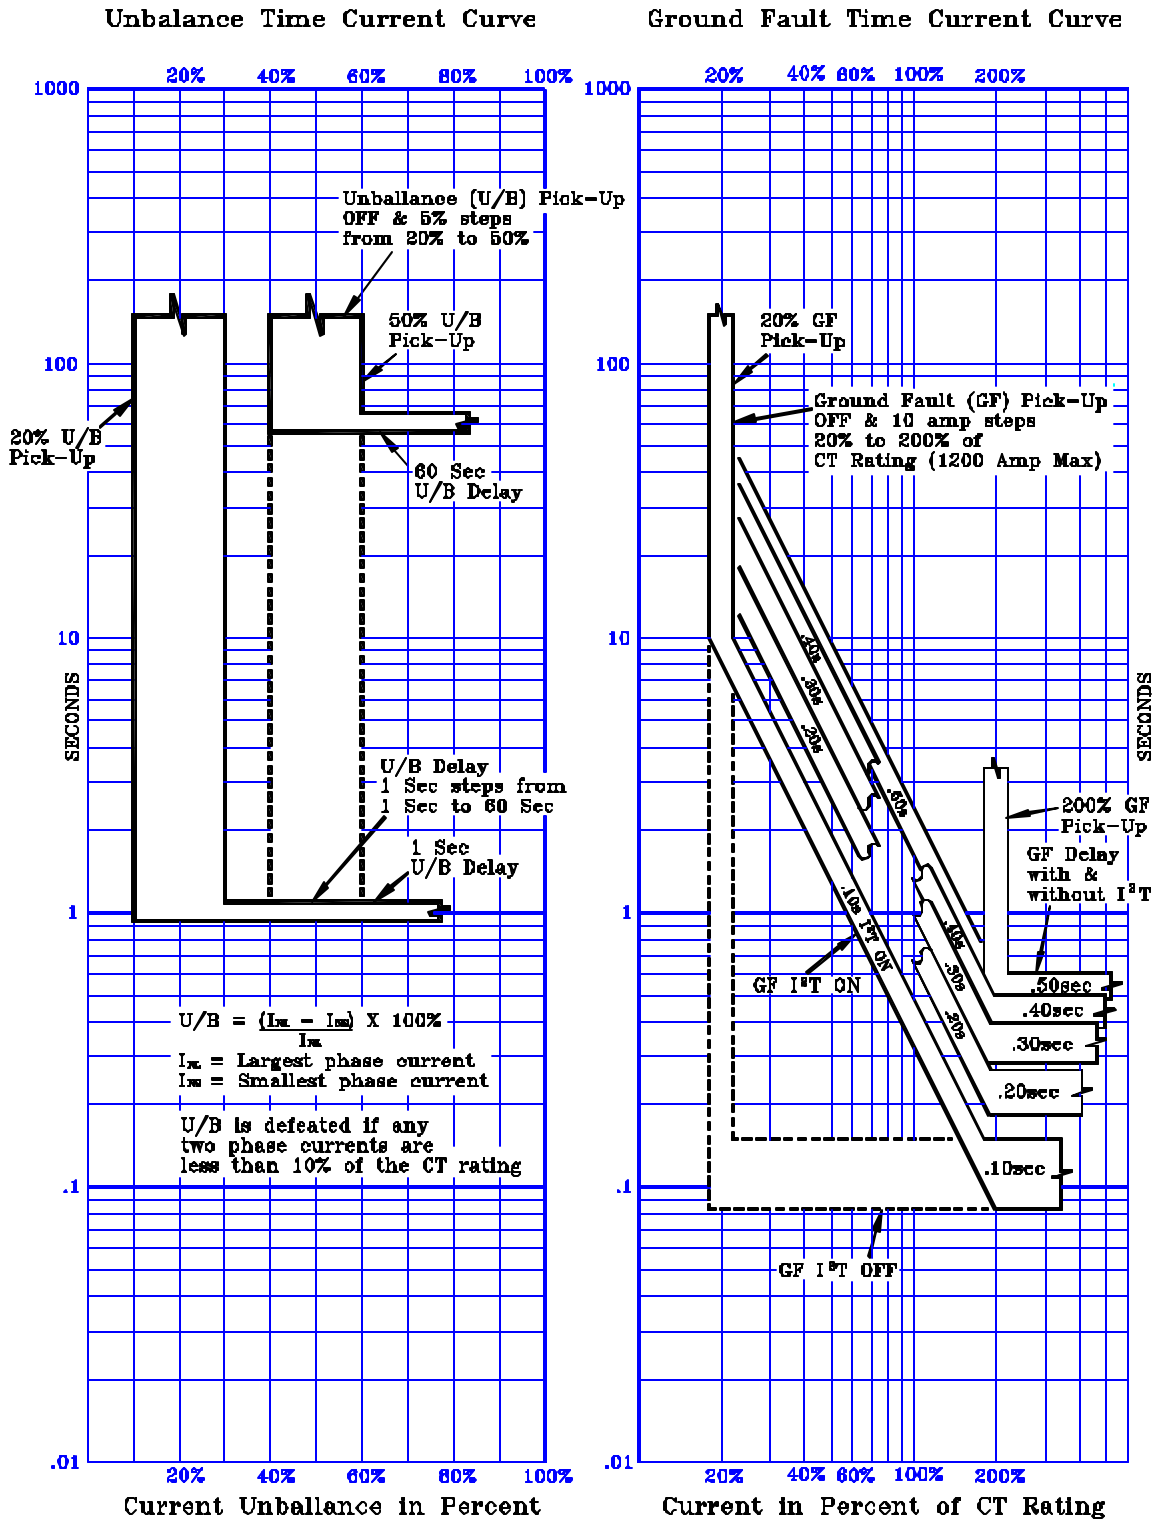

Figure 4
- 2) Hold down the Current Preset (13) while adjusting the Amp Coarse (14) and Fine (15) pots until the Display (12) shows the test current calculated in step 1.
- 3) Set the Phase selector (11) to GF.
- 4) Push the Clear (8) button to reset the timer (6) to zero.
- 5) Push the Start (5) button.
- 6) When the AC-PRO trips, the test set current will stop and the Timer (6) will freeze displaying the trip time.
- 7) Compare the trip time with the TCC in Figure 4 for the GF time band and I^2T settings in the AC-PRO.